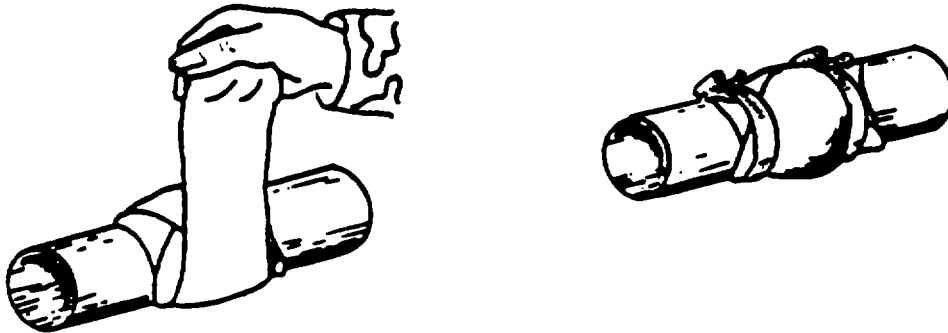

Figure 6-1 1. Short Hose Fabrication.
- (3) Option 3: Short hose fabrication.
- (d) Wrap the innertube as tightly as possible on the tubing (figure 6-1 1).